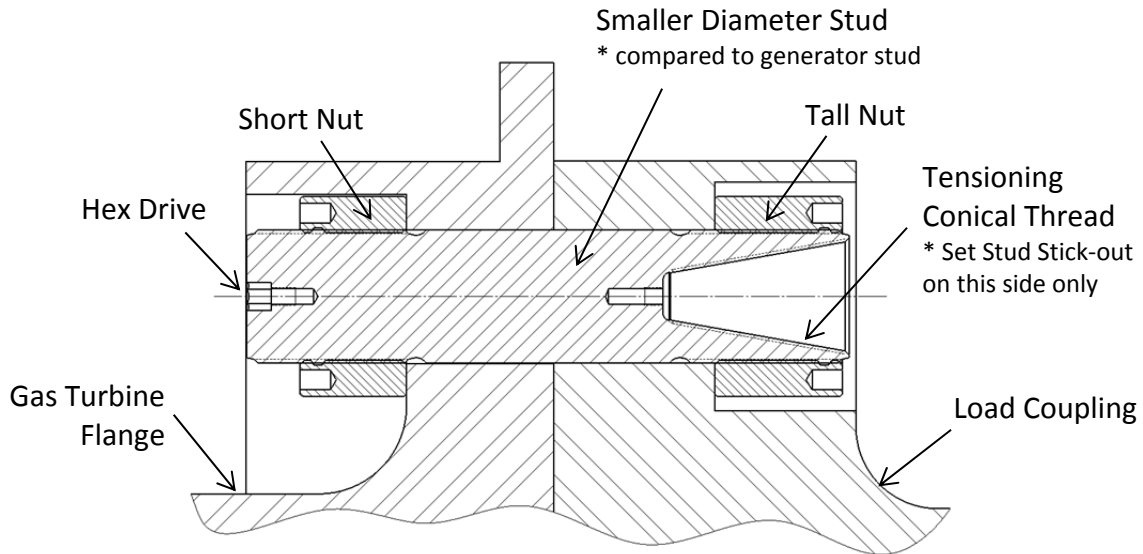

Figure 1A – Cross-section View of Gas Turbine to Load Coupling Bolted Flange Connection
- Slide the stud and cylindrical nut assembly into the flange as shown in Figure 1A and 1B.